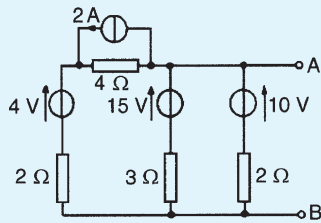

Figure 13.79
- Determine, by successive conversions between Thévenin and Norton equivalent networks, a Thévenin equivalent circuit for terminals AB of Fig. 13.79. Hence determine